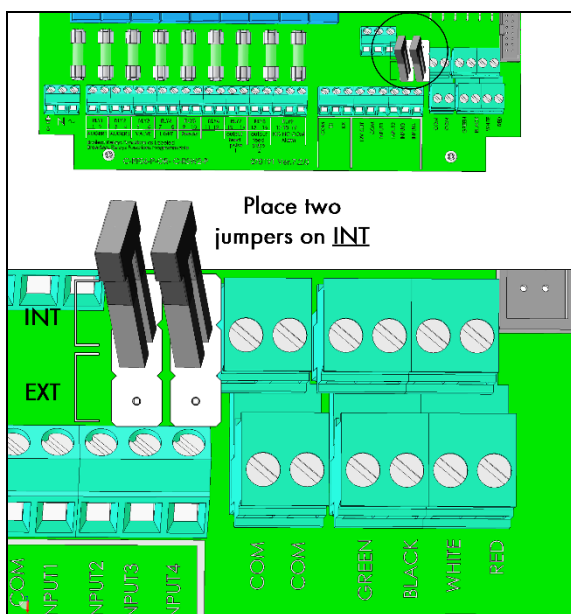
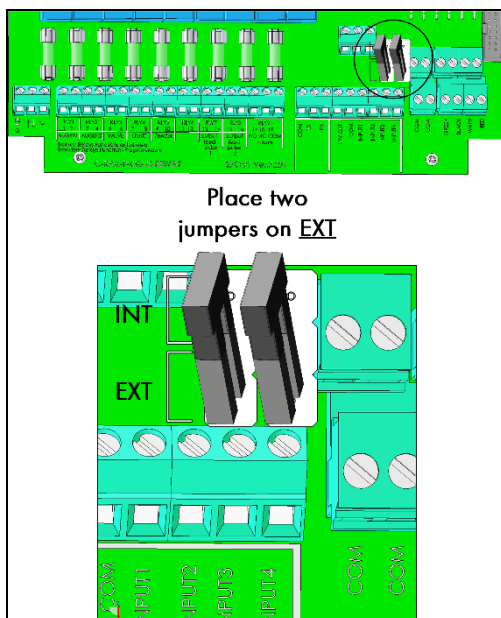

Figure 12: RSW-2 Jumpers set to Internal Power Supply
Figure 14: RSW-2 Jumpers set to External Power Supply)
- In both cases, jumpers must be set correctly (Figure 12 and Figure 14).